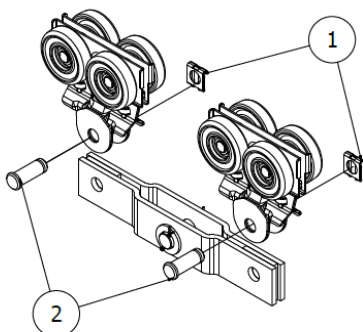

fig. 72
3. Insert the connection bracket inside the trolley plates. See fig. 72
4. Reassemble the suspension pins **2** and block them with the clips **1**. See fig. 72